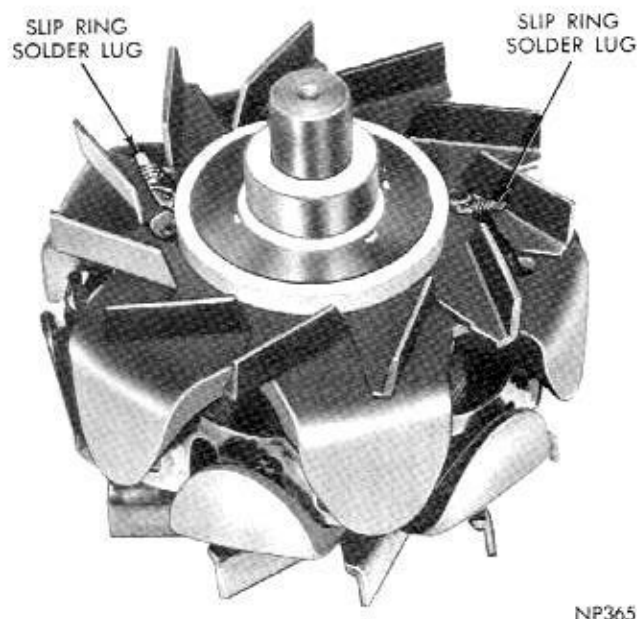

Fig. 22—Solder Points—Slip Ring Installed
- (b) Unwind field coil leads from slip ring lugs (Fig. 22) being careful not to break the wire leads.